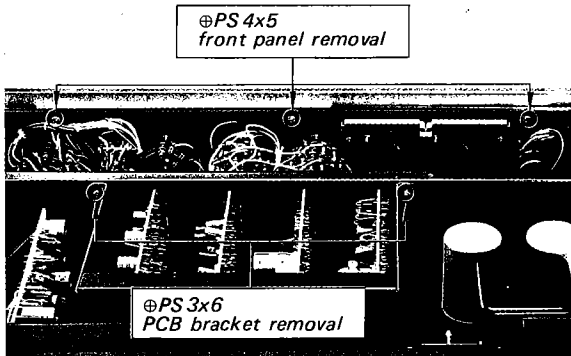

Fig. 2-3. Front panel and PCB bracket removal
4. Remove the three screws (⊕ PS 4x5) behind the top edge of the front subchassis as shown in Fig. 2-3.
1. Remove the two screws (⊕ PS 3×6) securing the PCB bracket to the PCB mounting bracket as shown in Fig. 2-3.